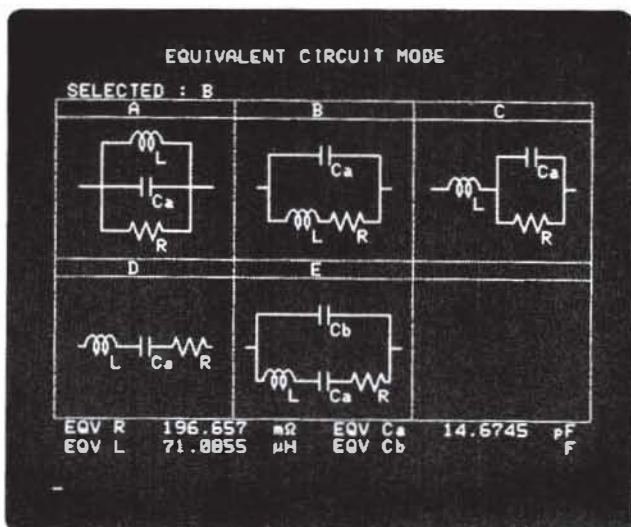

Figure 5. Calculated Equivalent Circuit Constants
To obtain impedance characteristics over a wide frequency range, including the component self-resonant frequency, it is necessary to use equivalent circuits having at least three components and to measure impedance frequency characteristics across a broad frequency range to determine constants. The 4194A is equipped with a Multi-parameter Approximation and Simulation function that, once given measurement values for impedance frequency characteristics, automatically calculates equivalent circuits (similar to those shown in Figure 5 (A ~ E)) and simulates frequency characteristics to obtain corresponding parameters. The procedure for obtaining multi-parameter equivalent circuit analysis is as follows.
3. Press the **CALC EOV PARA** softkey to have the equivalent circuit calculated and the L, C and R values displayed. (See Figure 5.)